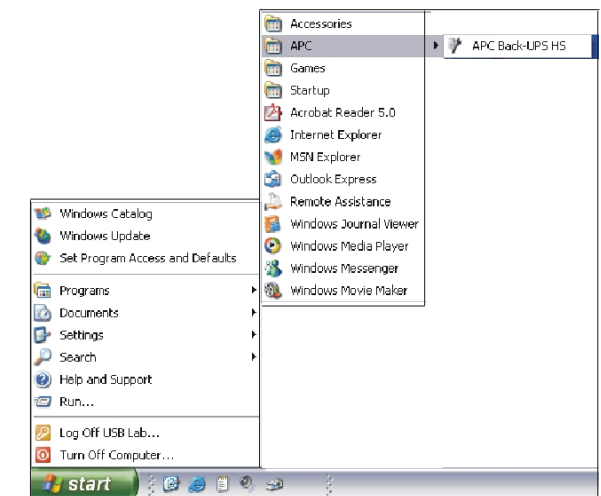

Figure 7. APC Software Startup Menu Selections
7. To launch the program, go to the **Start** menu, select **APC**, then select **APC Back-UPS HS** (Figure 7). **Continued on the next page -**